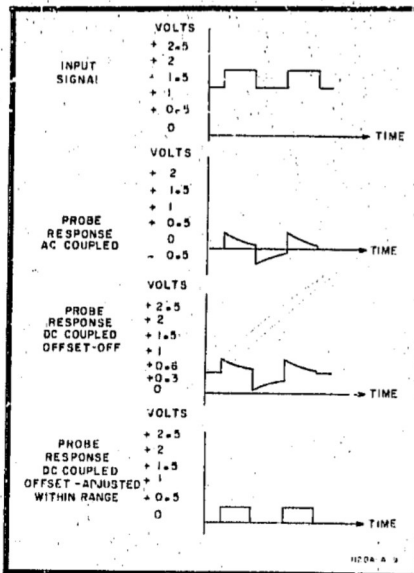

Figure 5. Low-frequency Offset Operation
18. When the dc level of the input signal is greater than ± 0.6 volt, the output of the DC-restore circuit will limit at approximately ± 0.6 volt or -0.6 volt (R1 fully counterclockwise). The dynamic range of the ac signal remains at ± 0.5 volt. See figure 5 for comparison between an input signal using the offset circuit and an input signal not using the offset circuit.